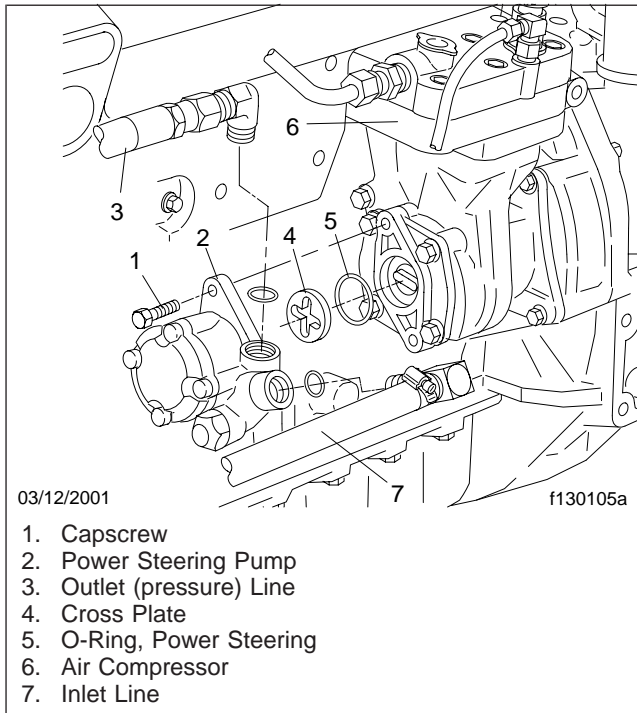

Fig. 1, Power Steering Pump Removal
3. Drain the power steering fluid and remove the hydraulic lines. See Fig. 1.